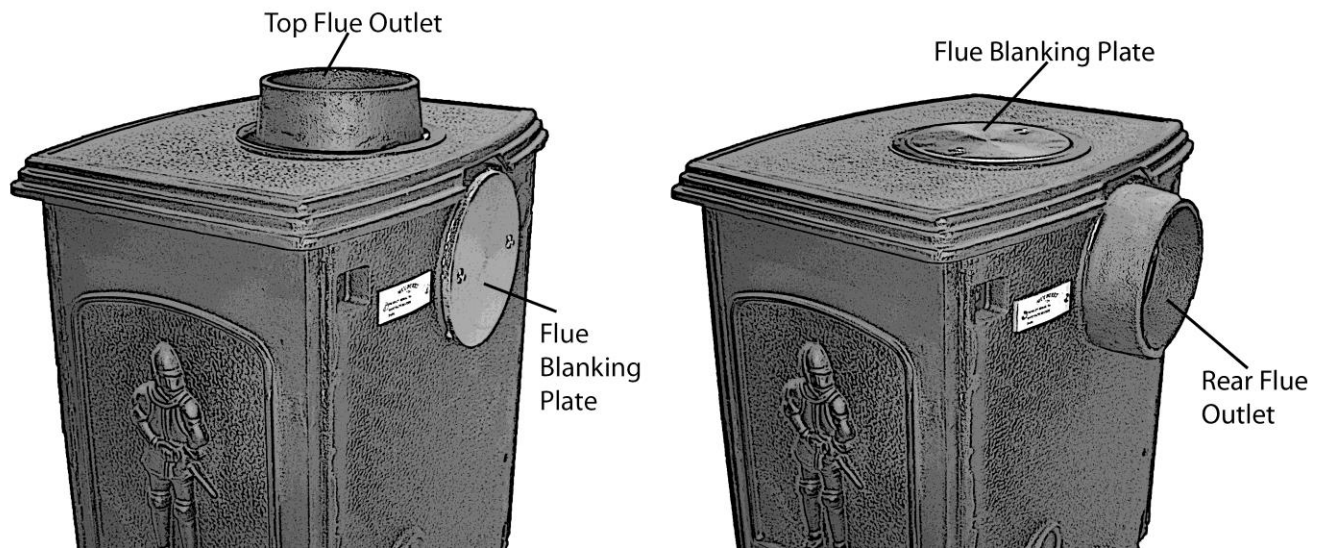

Fig 4.
- a) If chimney connection is to be at the back of the stove, remove the back flue blanking plate and fit flue collar making sure sealing rope is in place. Screw flue blanking plate onto top flue opening. See Fig.4.
- b) If the chimney connection is to be on the top of the stove fit flue collar to the top of stove, making sure sealing rope is in place and secure with screws. See Fig.4.